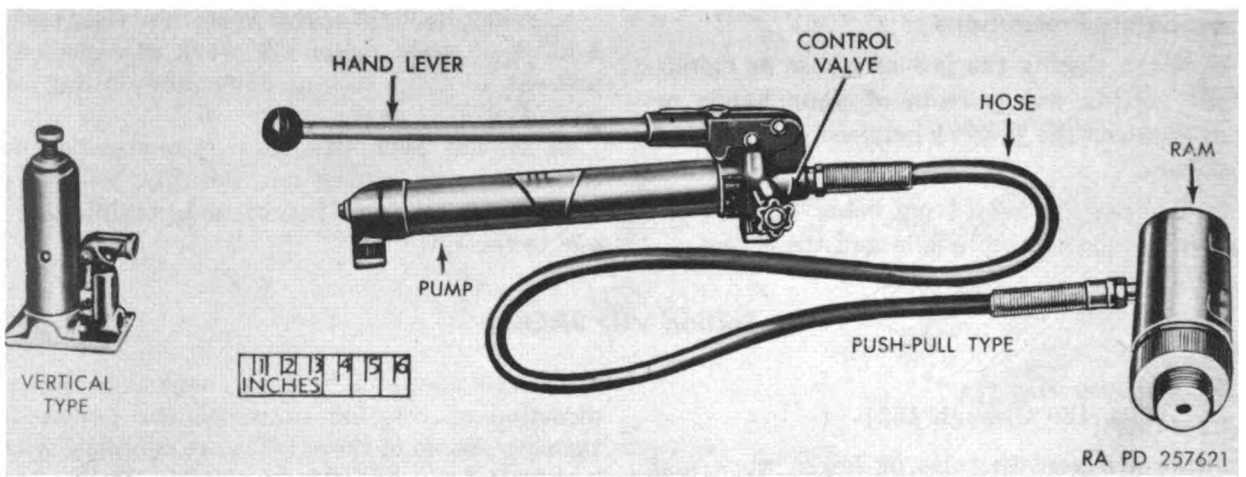
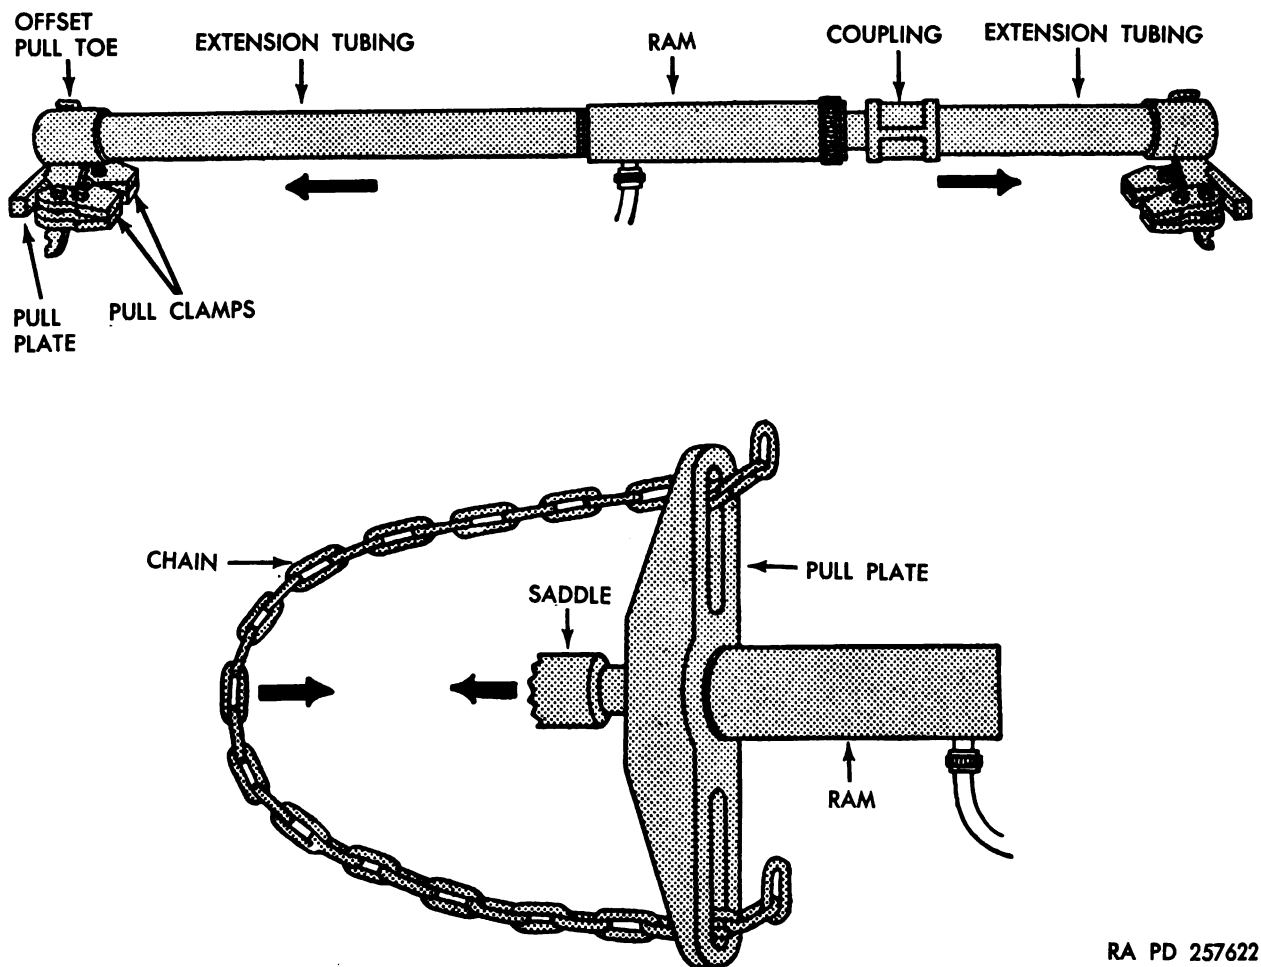

Figure 151. Hydraulic jacks.
Figure 152. Jack pulling combinations.
c. Vertical Hydraulic Jacks. A hydraulic jack (fig. 151) operates through pressure applied to one side of a hydraulic cylinder which moves the jack head. These jacks are automatically lowered or released by releasing the pressure. Vertical hydraulic jacks are issued in a variety of types, in capacities from 3 to 100 tons, having different extended heights.
d. Push-Pull Hydraulic Jacks. A push-pull hydraulic jack (fig. 151) consists of a pump and ram connected by a hydraulic or oil hose. These jacks are rated at 3-, 7-, 20-, 30-, and 100-ton capacities and have diversified applications.
c. Push-Pull Hydraulic Jacks. The push-pull hydraulic jacks are furnished with an assortment of attachments that enable you to perform countless pushing, pulling, lifting, pressing, bending, spreading, and clamping operations. The pump is hand operated. Simply turn the control valve (fig. 151) on the side of the pump clockwise, stroke the hand lever up and down and the ram will extend. The 6-foot flexible hydraulic or oil hose allows you to operate the ram in any desired position and from a safe distance. The ram retracts automatically by turning the control valve counterclockwise. The attachments can be threaded to the end of the plunger, to the ram body, or into the ram base. Figures 152 through 155 illustrate some standard